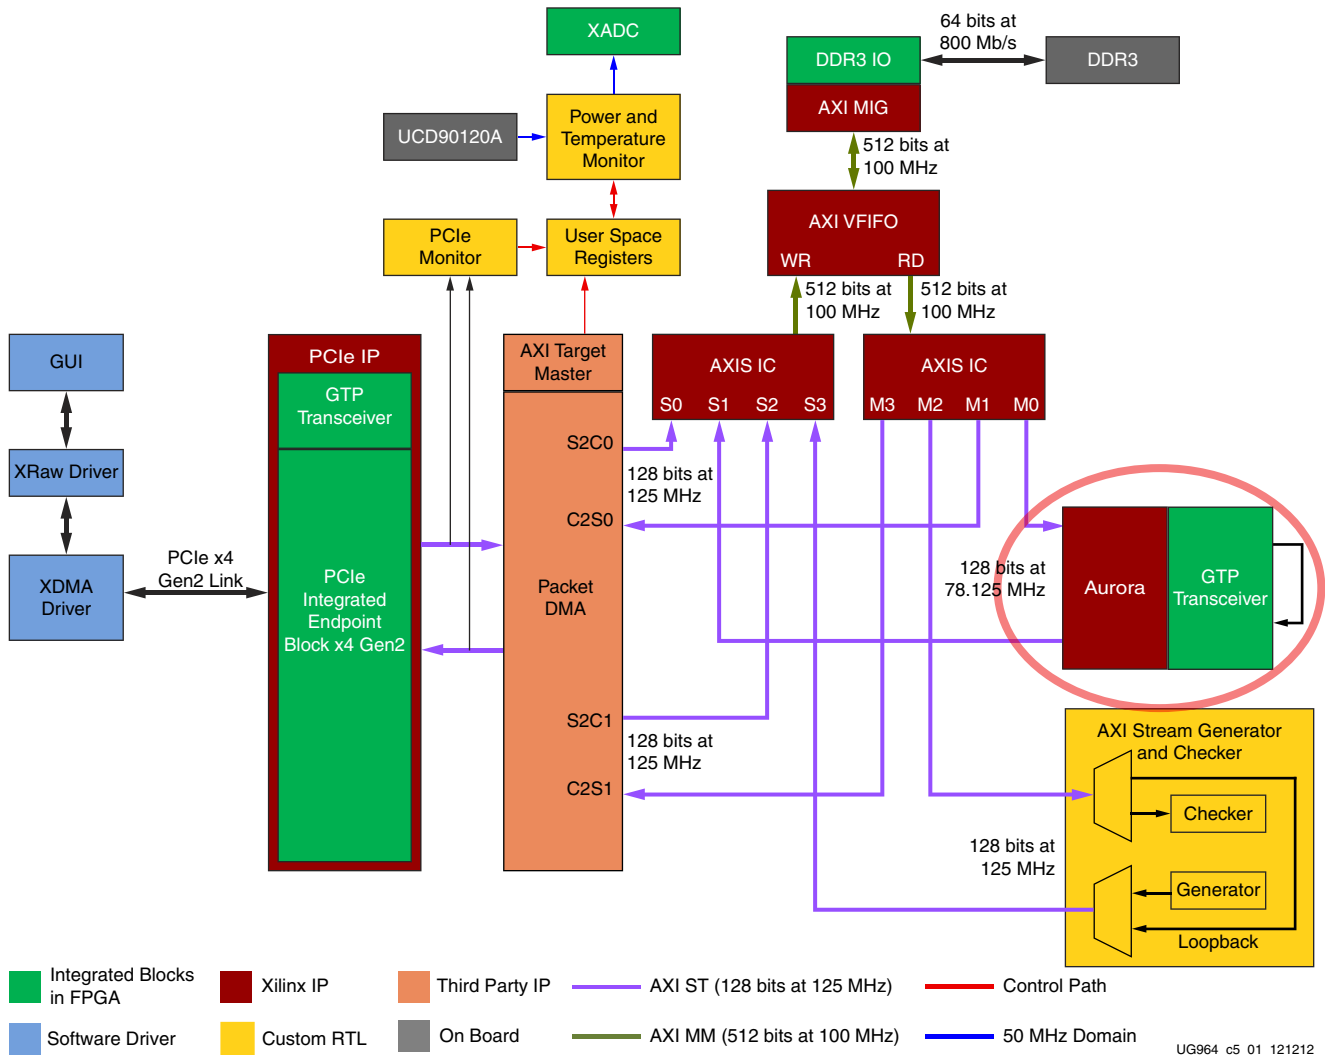

Figure 5-1: Integrating Aurora
- Remove the AXI Stream Gen/Chk instance and insert the Aurora LogiCORE IP into the framework as shown in Figure 5-1.